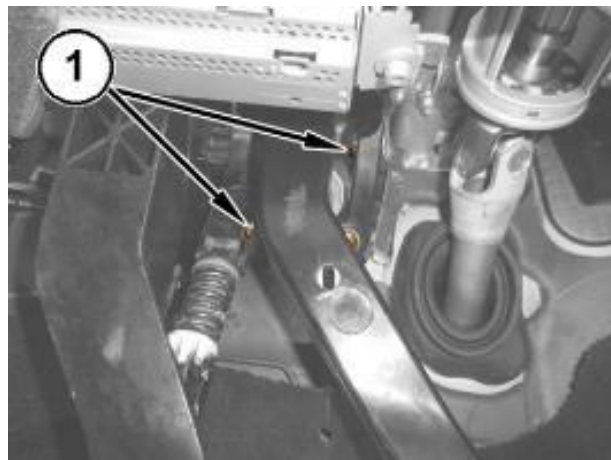

Figure 68 – ABS Module Nuts
- 63. Remove the nuts (1) attaching the ABS module to the pedal unit mounting (Figure 68).